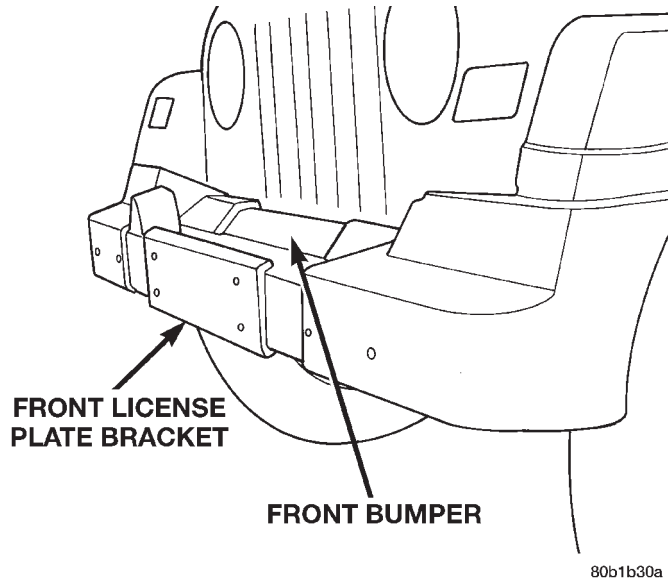

Fig. 3 Front License Plate Bracket
(1) Remove the front license plate bracket attaching bolts and bracket (Fig. 3).